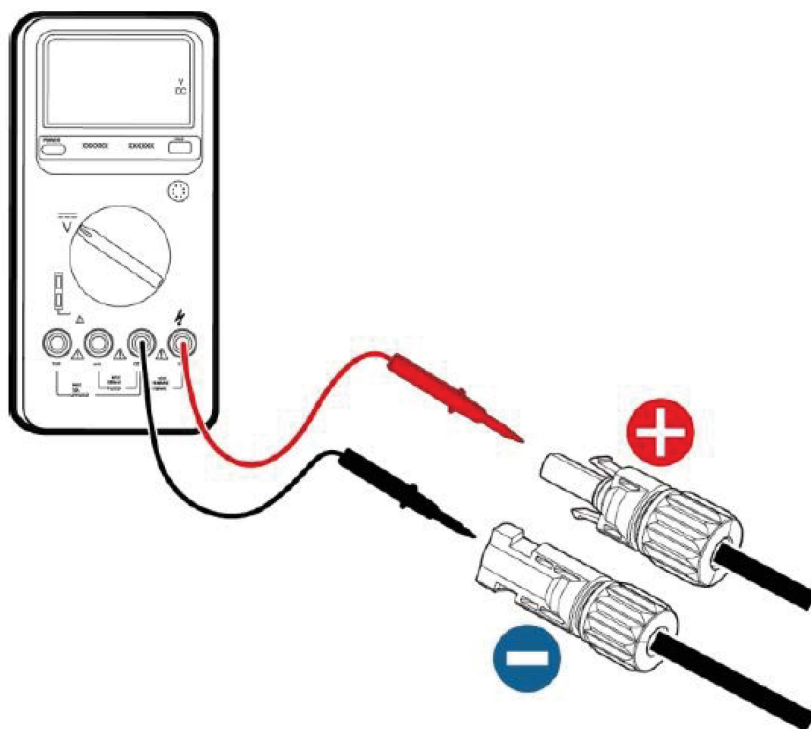

Figure 4.8 DC input voltage measuring
- (3) After the DC connector is connected, use a multimeter to measure the voltage of the DC input string, verify the polarity of the DC input cable, and ensure that the voltage of each string is within the allowable range of the inverter, as shown in Figure 4.8.